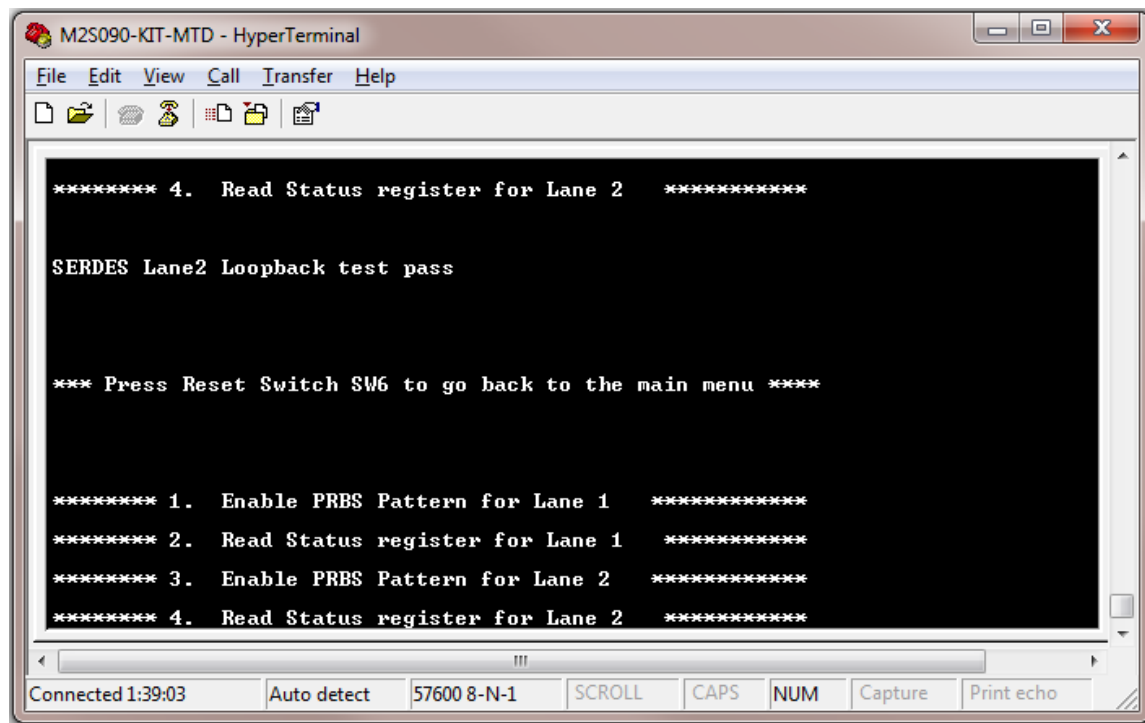

Figure 49 SERDES Lane2 Loopback Test Passed
20. When the test is started, a message is displayed. Refer to Figure 49.